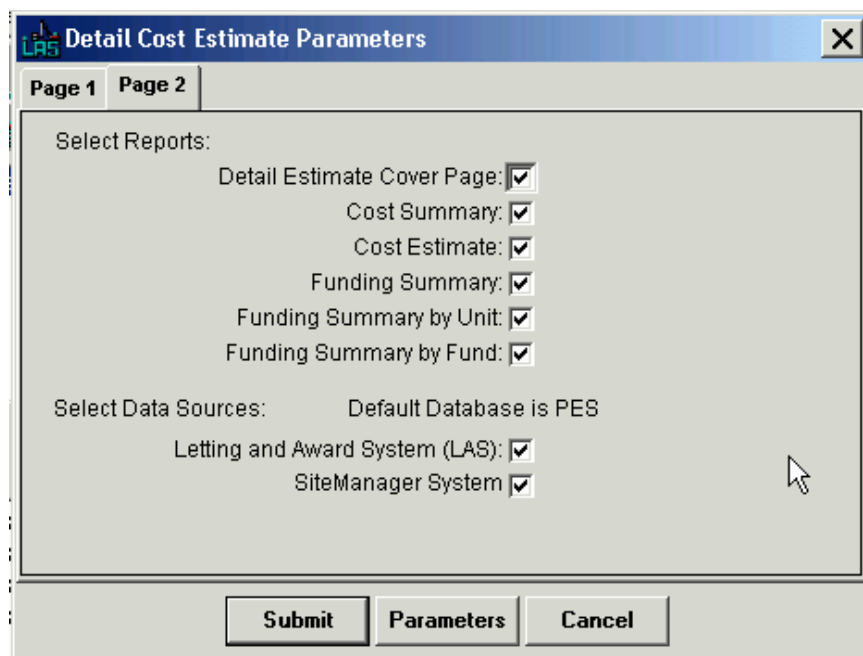

Figure 10-10. Detail Cost Estimate Parameters Window
5. Click **SUBMIT** to run the process (see Figure 10-10).